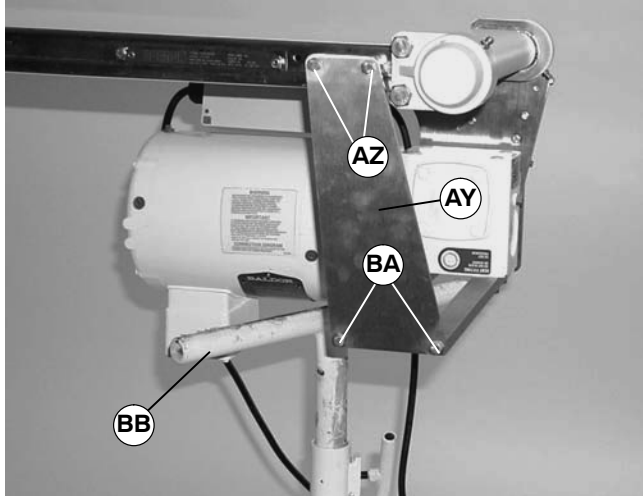

Figure 25
NOTE: For conveyor with a Heavy Load Bottom or Top Gearmotor Mounting Package, bracket (AY of Figure 25) must be removed.
<p>The weight of the gearmotor is all on one end of the conveyor which could cause it to tip off the stands when the mounting clamp plates are loosened. Be sure to provide support (BB of Figures 25 and 26) underneath the gearmotor while changing the belt.</p>
2. Place a temporary support (BB of Figures 25 and 26) under gearmotor mounting package.
- For a conveyor with a Heavy Load Bottom or Top Mounting package, install bracket (AZ of Figure 25).